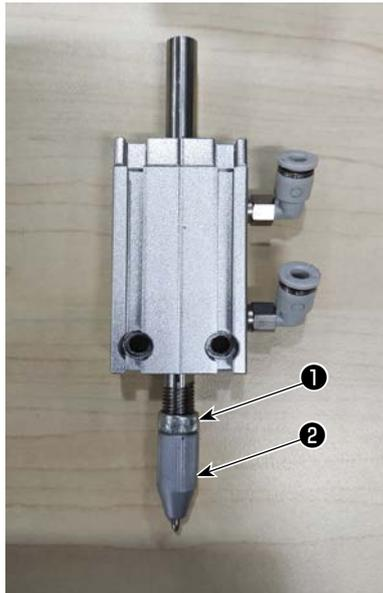
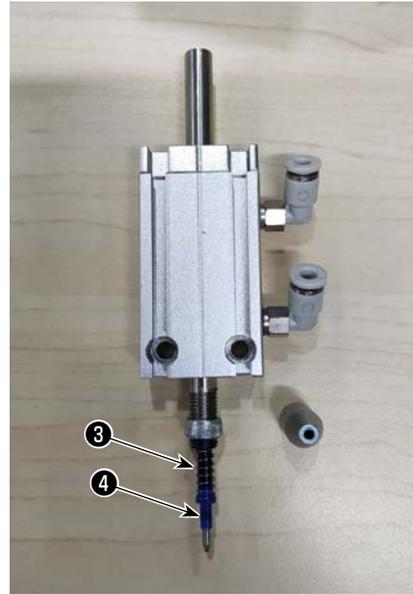

Fig. 1
Fig. 2
Remove socket ② of the pen holder set (Fig. 1) by hand. Then, remove fine adjustment nut ① (Fig. 2), and lastly, remove spring ③ and pen ④ together also by hand.
Put spring ③ on new pen ⑤ (Fig. 3), screw socket ② into the pen holder set. Then, install it to the sewing machine. If the pen fails to come in contact with the paper, you may adjust fine adjustment nut ① and socket ② as shown in Fig. 1 so that the pen comes in contact with the paper.